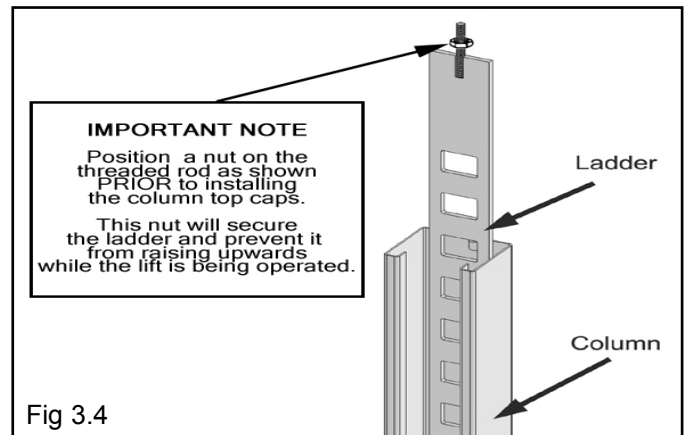

Fig 3.4
4. With the Columns standing and the Cross Tubes in position, install the Safety Ladders. Pass the ladders through the Column openings and drop down through the Slide Block guide slots on the Cross Tube until the Ladders come to rest on the Base Plates. **DO NOT BOLT** Columns down at this time. (See Fig. 3.4 - 3.5)